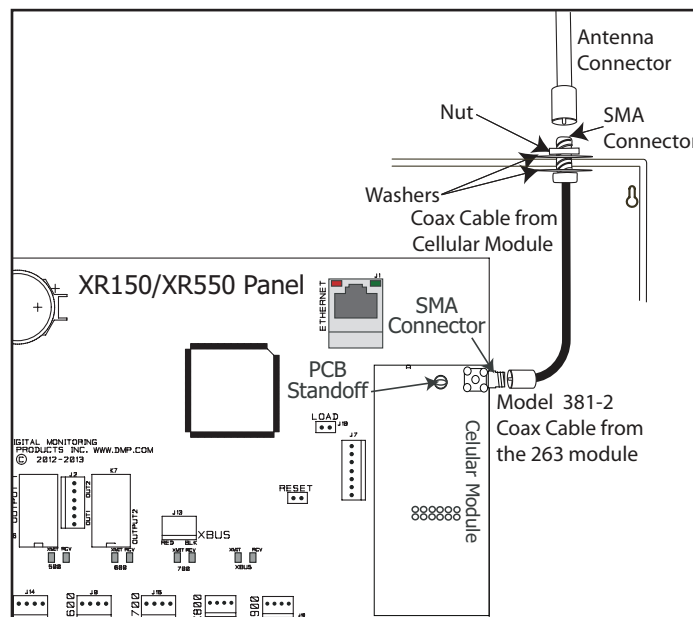

Figure 13: Cellular Module Installation
3. Press the module PCB card 12 pin connector onto the CELL MODULE connector on the panel while applying even pressure to both sides of the board to fully seat the module. See Figure 13.
4. Attach the included 383 Antenna to the SMA connector. See Figure 13.